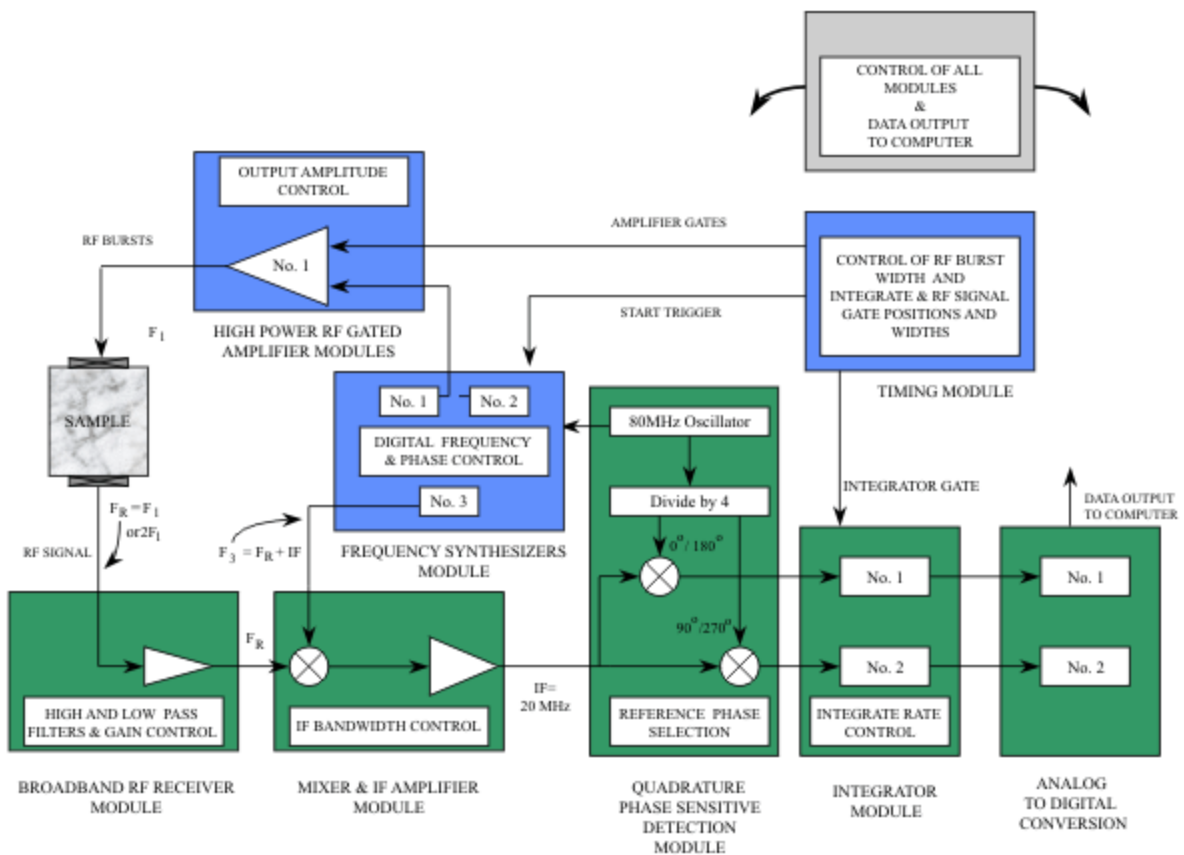

Figure 11-1. Block diagram of RAM system.
Figure 11-1 shows the block diagram of the instrumentation approach used in the RAM-5000-SNAP-Plus system.
Equations 11-5, 11-6, and 11-7 describe the "quadrature phase-sensitive detection" process. The high-frequency terms are effectively removed by the integrators and low-pass filters (not shown in Figure 11-1) that follow the analog Multipliers. Only the low-frequency (base band) terms, involving the phase of the received signal, survive. This analysis has assumed that the local oscillator synthesizer (synthesizer 3) has been set to receive the proper frequency. If this is not the case, the phase detector outputs will contain terms containing the difference frequency between the tuning (LO) frequency and the actual received frequency.